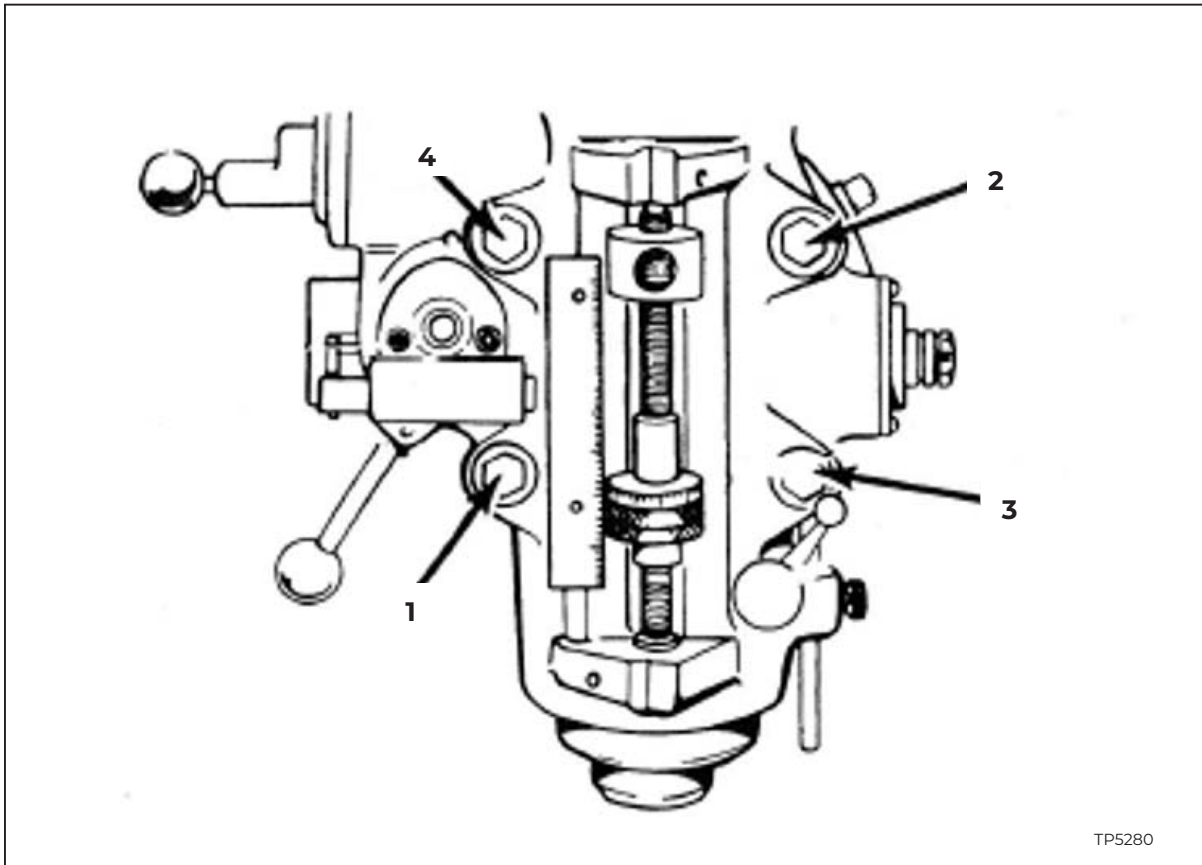

Figure 1.4 - Tightening Sequence
5. Tighten head bolts in a diagonal sequence as noted in Figure 1.4. Note overtightening can cause binding in the quill movement.